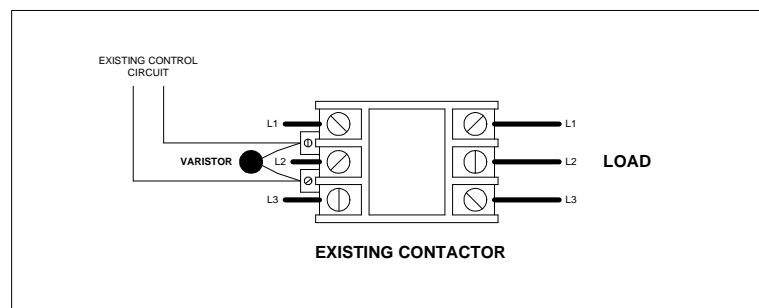

Figure 15: Varistor Installation Details
Each VAV or VVR is shipped with four (4) varistors for installation on existing fan or electric heat contactors. The devices clamp on electrical noise typically associated with drop-out of contactor coil voltage, which may cause the VAV controller to malfunction. To install the varistors, connect in parallel with contactor coil wiring as shown in **Figure 15**.